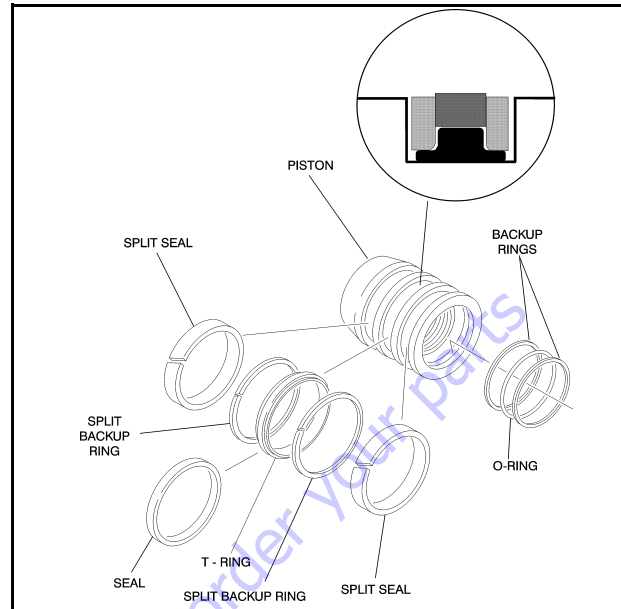

Figure 5-17. Piston Seal Kit Installation.
**NOTE:** The backup rings for the solid seal have a radius on one side. This side faces the solid seal. (See magnified insert in Figure 5-17.) The split of seals and backup rings are to be positioned so as not to be in alignment with each other.
16. Place new guide locks and seals in the applicable outside diameter grooves of the cylinder piston. (See Figure 5-17., Piston Seal Kit Installation.)